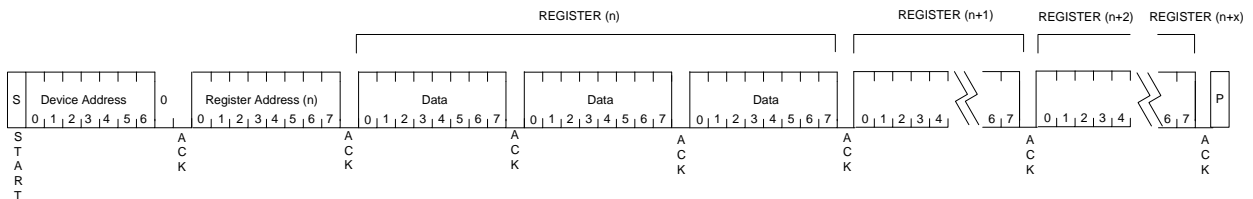

Figure 13: I²C Bus Multiple Sequential Register Write
Upon receiving a STOP (P) condition, the internal register address pointer will be incremented. The write access can be extended to multiple sequential registers. Figure 13 shows a transaction where multiple register are written sequentially